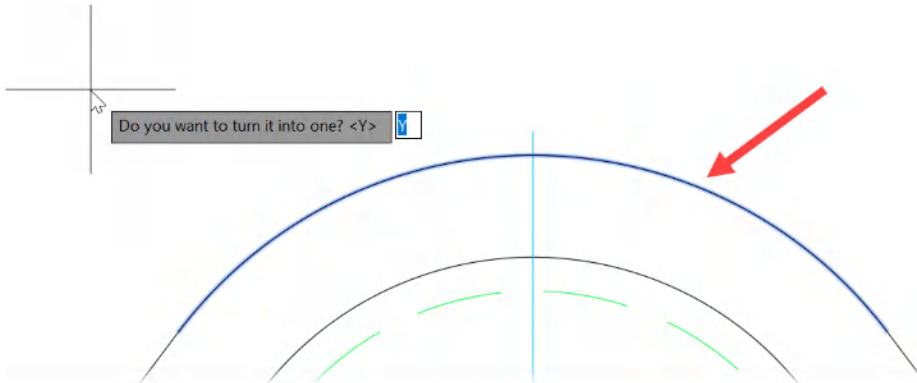

Figure 5.14: The selected arc with the relevant AutoCAD prompt displayed
2. Select the arc on the outline of the bearing case, as shown in *Figure 5.14*: